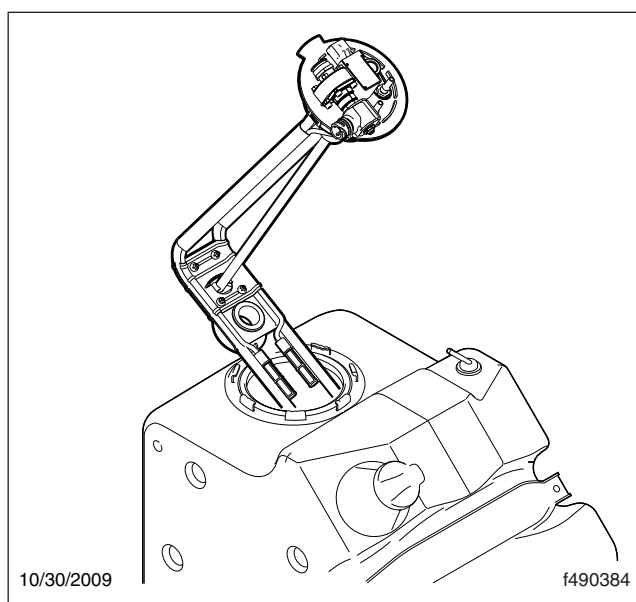

Fig. 2, Header Unit on 13-Gallon or 23-Gallon Tank
5. Install a new header unit by tilting it to insert the horizontal end into the tank. Once the horizontal segment is inside the tank, tilt the header unit back to vertical to settle the bracket onto the top of the tank. See Fig. 2.